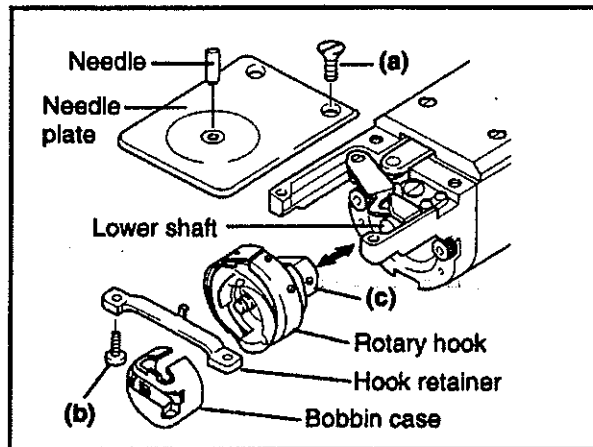

FIG.1
- (5) Remove retaining screw (b), and remove the hook retainer (Fig.1).
- (6) Loosen three retaining screws (c), and remove the rotary hook (Fig.1).
- (1) Put the rotary hook along the lower shaft (Fig.1).
- (2) Align the protrusion of the hook retainer with the dent in the rotary hook, and temporarily fit the hook retainer with retaining screw (b) (Fig.1).
- (4) Rotate the rotary hook manually to align the hook tip with the needle center. Secure a clearance of 0.03 ~ 0.07mm between the needle and the hook tip and temporarily tighten retaining screw (c) closest to the hook tip (Figs. 1 and 2).